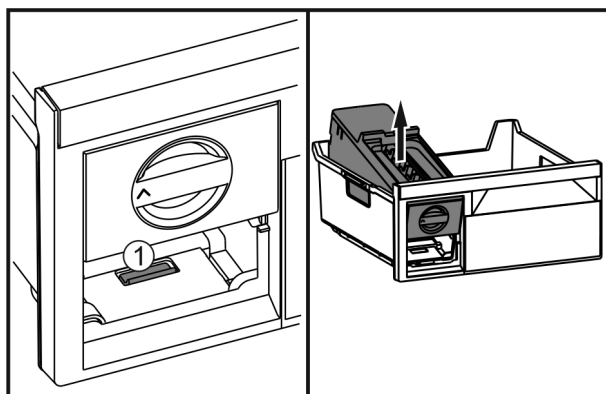

Fig. 30
- ▶ Press the lug *Fig. 30 (1)*, lift up the EasyTwist-Ice at the back and take it out of the freezer drawer.